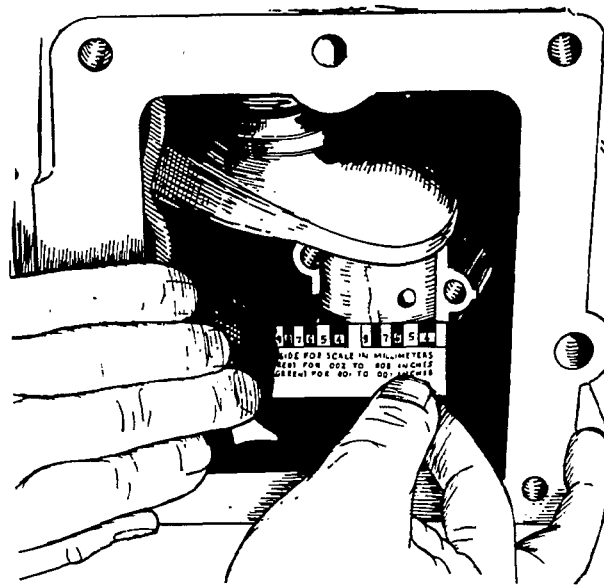

FIGURE 24. MEASURING BEARING CLEARANCE
2. Place a piece of correct size Plastigauge in the bearing cap the full width of the journal surface and about 1/4 inch (6.35 mm) off center (Figure 24).